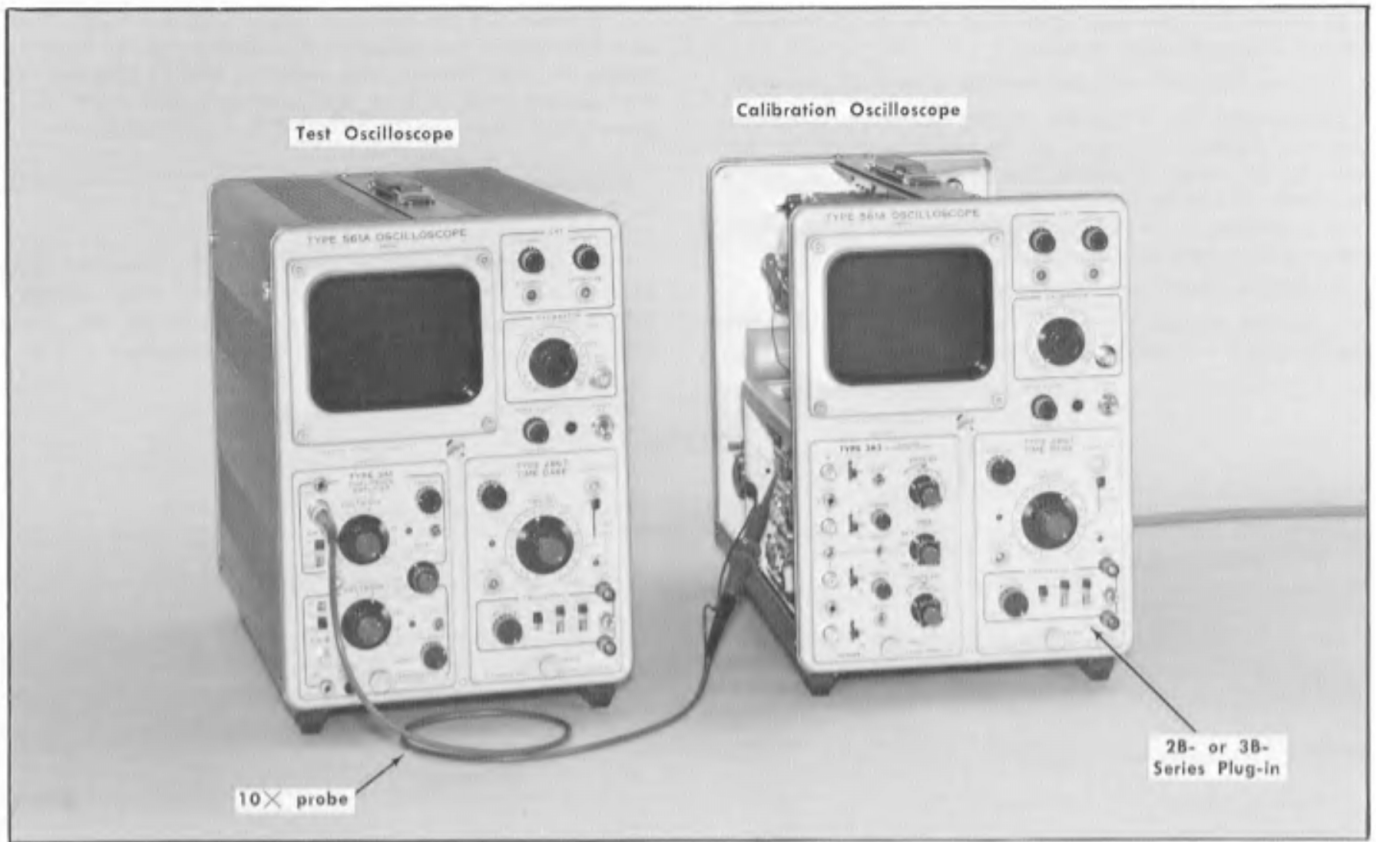

Fig. 6-20. Initial test equipment setup for step 36.
- a. Test equipment is shown in Fig. 6-20.